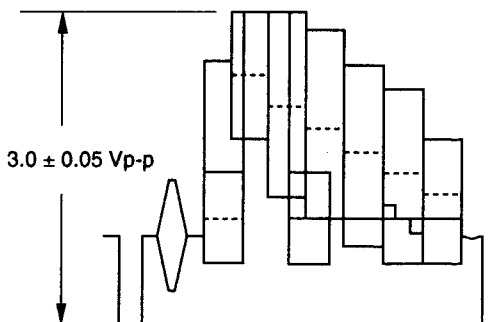

Fig. 5-2-2
- Adjust VR2 so that the Video signal level becomes  $3.0 \pm 0.05 V_{p-p}$  as shown in the Fig. 5-2-2.